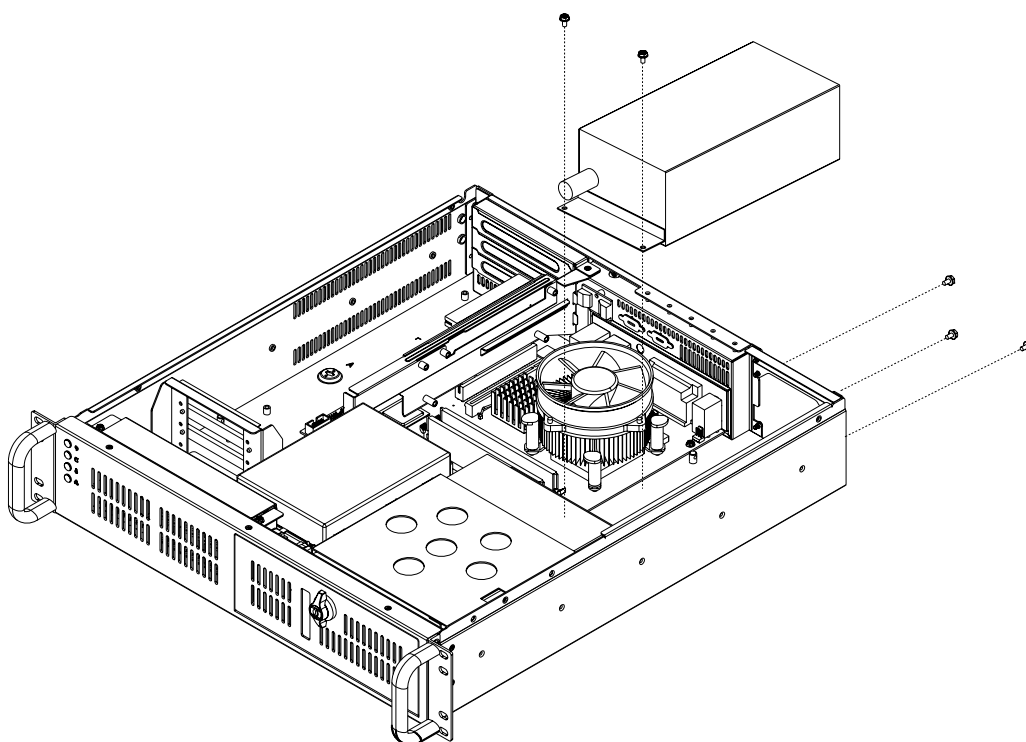

Figure 3.7 Replacing the power supply
4. Loosen the three screws on the rear plate and the two screws on the power supply bracket and gently remove it (see Figure 3.7).